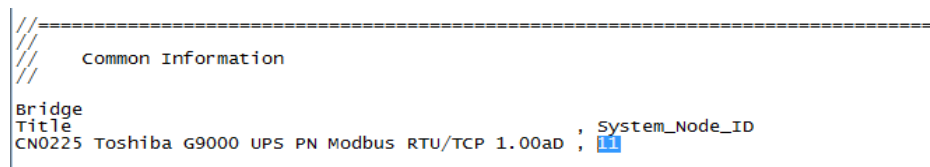

Figure 1 – Change System Node ID
- It is recommended that the configuration file be backed up before editing. To change the “System Node ID” number, open the protocol configuration file (e.g. config-mod.csv) and look for the section “Common Information” (See Figure 1). Change the “System Node ID” to another number other than 11. Eleven is the number by default. In order to avoid any data collision, make sure each “config file” has its own “System Node ID” number.
- **Note: The information on Figure 1 might be different depending on which UPS Model and protocol you have selected.**